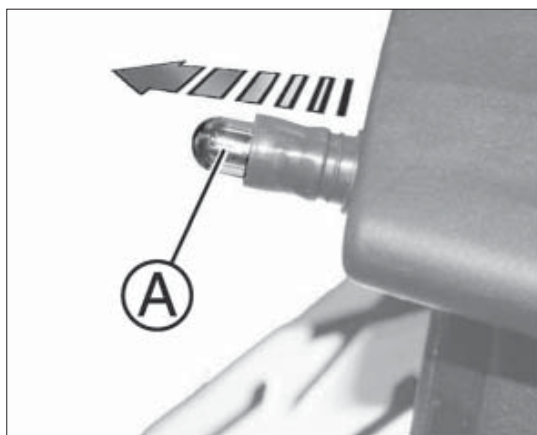

fig. 6
- disconnect the bulb A fig. 6 from the bulb holder.
- replace the blown bulb and connect the new bulb to the bulb holder A fig. 6, ensuring that it is correctly inserted;